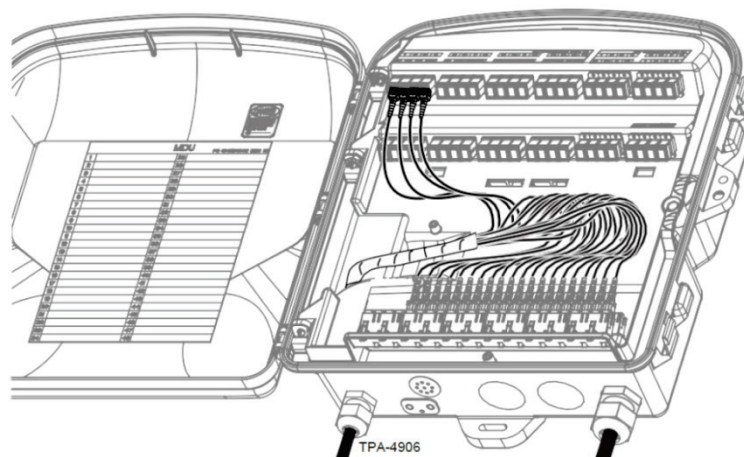

Figure 10
**Step 1** Select the appropriate connector from the parking area (Figure 10)
Step 4	Record the connector terminations on the identification label inside the front cover (Figure 10) as they are made.